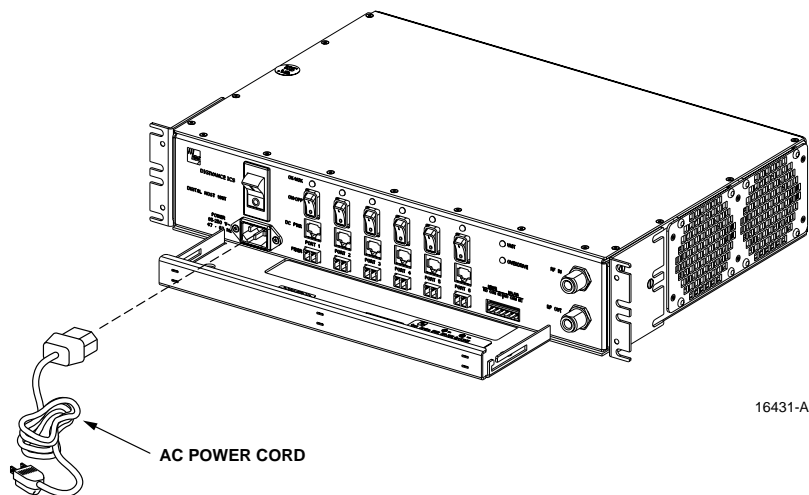

Figure 23. AC Power Connection
2. Place the DHU AC power ON/OFF switch, shown in Figure 23, in the **OFF** position (press 0).